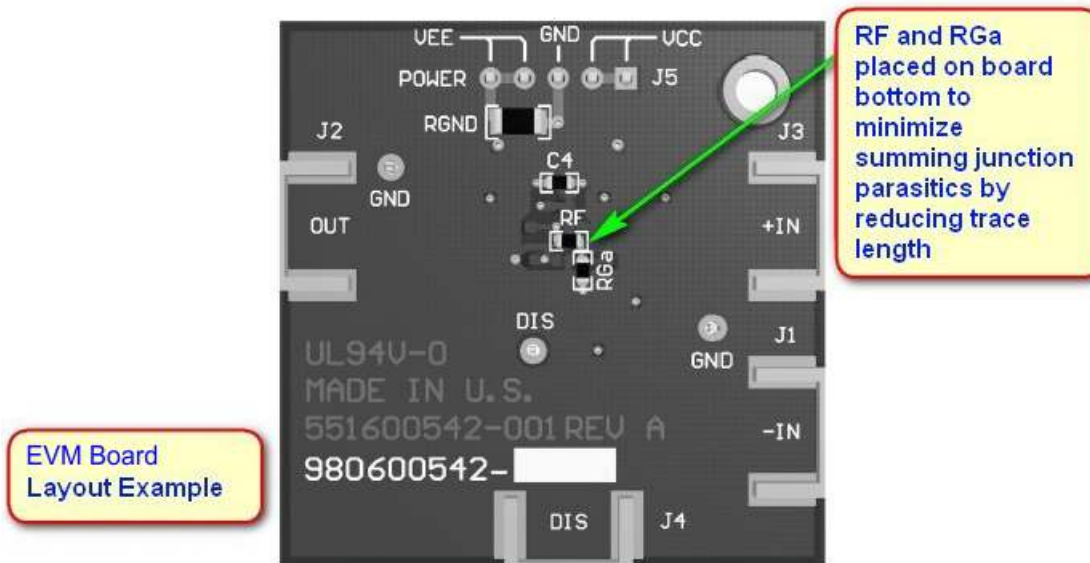

Figure 29. LMH6702-MIL Evaluation Board Layer 2
- The input summing junction is very sensitive to parasitic capacitance. Connect any  $R_f$ , and  $R_g$  elements into the summing junction with minimal trace length to the device pin side of the resistor, as shown in Figure 29. The other side of these elements can have more trace length if needed to the source or to ground.